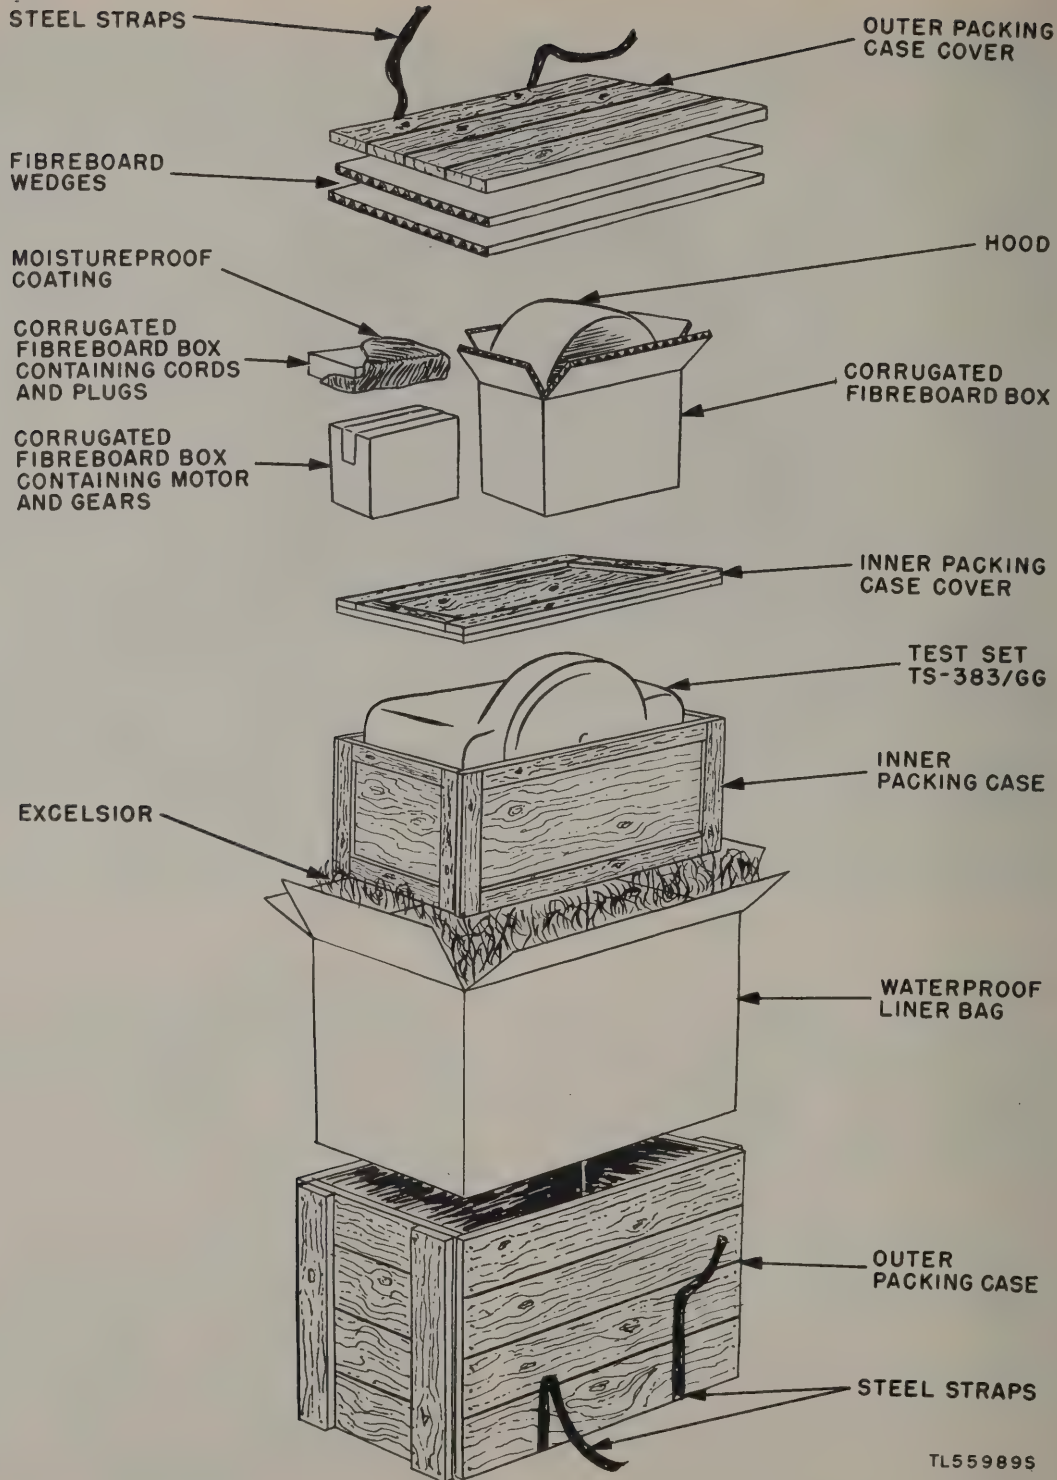

Figure 5. Distortion Test Set TS-383/GG packaged for overseas shipment.
b. For oversea shipment, Distortion Test Set TS-383/GG is packed in a cleated, wooden packing case reinforced with steel straps and fitted with a sealed waterproof liner bag. (See fig. 5.) Crated for oversea shipment, the test set weighs approximately 225 pounds and displaces $10\frac{1}{2}$ to $12\frac{1}{2}$ cubic feet.